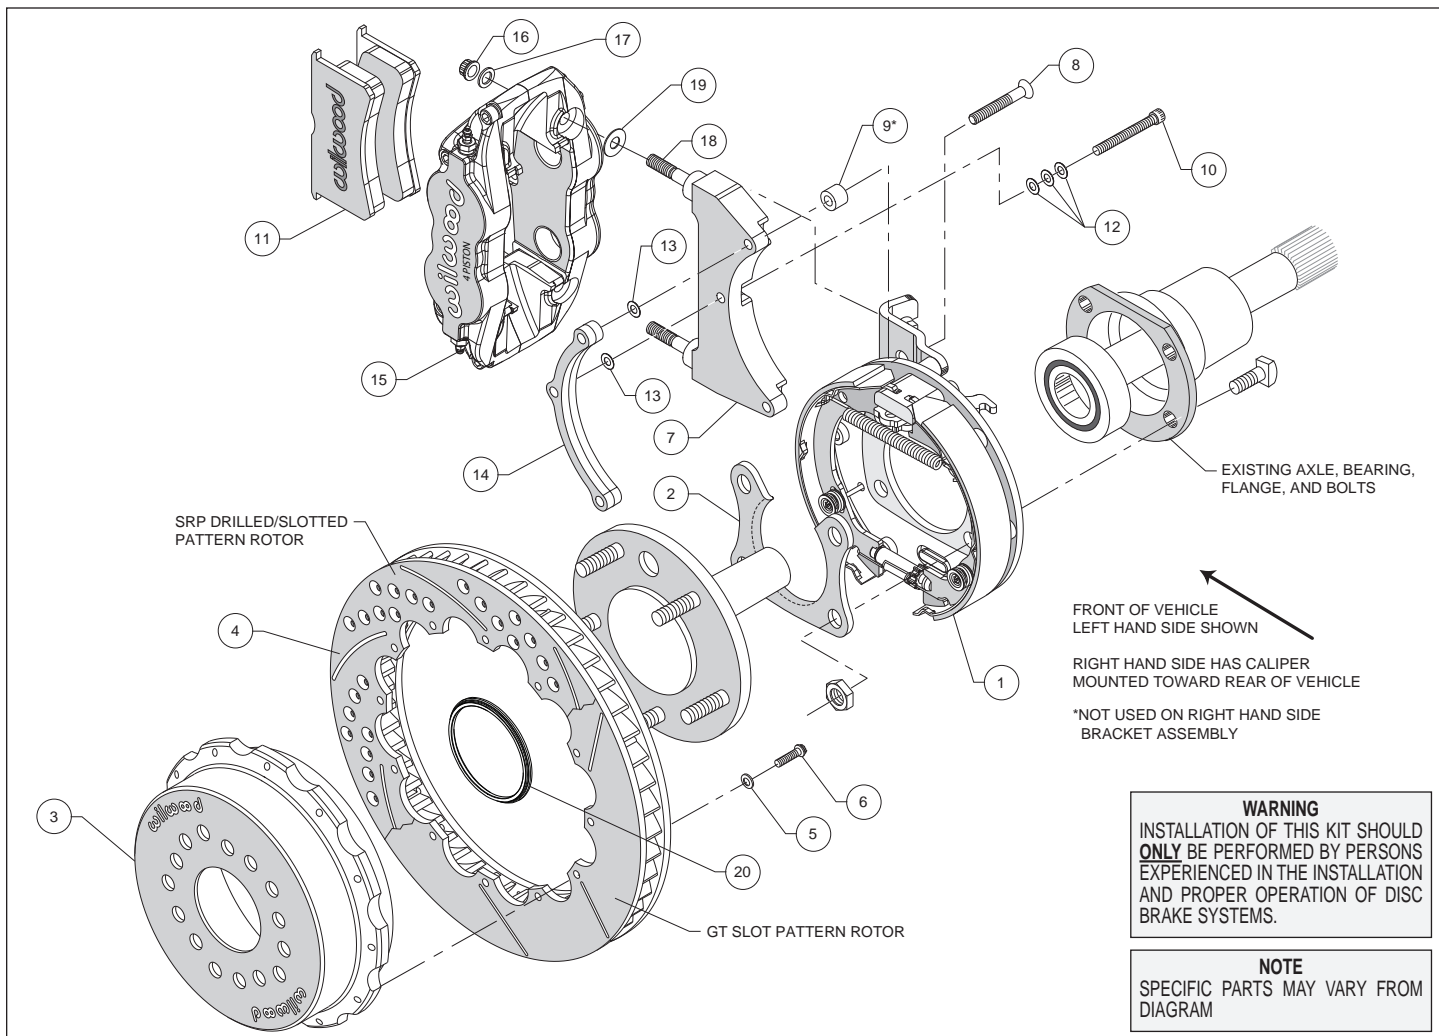
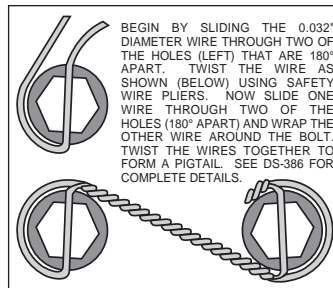

Figure 1. Typical Installation Configuration
Figure 5. Safety Wire Diagram
**Assembly Instructions** (numbers in parenthesis refer to the parts list and Figure 1 on the preceding pages): **CAUTION:** All mounting bolts must fully engage threaded holes.
- Orient the bracket assembly (1), as shown in Figure 1, and Photo 1, and slide it onto the axle. Insert the axle and bracket into the axle housing. Ensure that the bracket assembly backing plate fits flush against the axle housing flange.
- Install the bearing retainer (2) with the opening pointing upward and the lip facing inward (toward the bearing), as shown in Figures 1 and 4, and Photo 2. Secure retainer and bracket assembly to the axle housing flange using the Original Equipment Manufacturer (OEM) bolts and nuts, Figure 1. Apply red *Loctite*® 271 to the OEM bolt threads and torque to OEM specifications.
•**NOTE:** Please reference the caution statement at the beginning of the assembly instructions. The caliper mounting bracket assembly (7) should initially be installed with clean, dry threads on the mounting bolts. **NOTE:** The caliper bracket must tighten squarely against the back side of the bracket kit assembly (1). The ends of the bolts should not exceed inside face of insert. Later, after the caliper alignment has been checked, the mount bolts will be secured using red *Loctite*® 271.
**Left Hand Side** - Orient the left hand bracket (7) and 3-hole spacer (14) as shown in Figure 1 and Photo 3, and install using bolts (10) and three washers (12) in the middle and lower hole locations, Figure 1. Use bolt (8) in the upper hole with spacer (9) placed between the bracket (7) and the cable stop bracket, Photo 3. Initially place one .015" shim washer (13) on each of the three bolts between the bracket and 3-hole spacer, Figure 1. Temporarily tighten the mounting bolts.
**Right Hand Side** - Orient the right hand bracket (7) and 3-hole spacer (14) as shown in Photo 4, and install using bolts (10) and three washers (12) in each hole location. Initially place one .015" shim washer (13) on each bolt between the bracket and 3-hole spacer. Temporarily tighten the mounting bolts.
•Orient the rotor (4) and the hat (3) as shown in Figure 1 and Photo 5. Attach rotor to hat using bolts (6) and washers (5). Using an alternating sequence, apply red *Loctite*® 271 to the threads, and torque to 155 **in-lbs**. For an added measure of security, the bolts may be safety wired using standard 0.032 inch diameter stainless steel safety wire as shown in Figure 5. Please refer to Wilwood's data sheet DS-386 (available at [www.wilwood.com/Pdf/DataSheets/ds386.pdf](http://www.wilwood.com/Pdf/DataSheets/ds386.pdf)) for complete safety wire installation instructions.
•Slide the rotor registration adapter (20) onto the axle register on the axle flange with the smaller O.D. facing toward the rotor/hat (3/4), Photo 6. Align the correct hole pattern in the hat with the stud pattern on the axle flange and slide into place, Figure 1 and Photo 7. **NOTE:** The rotor/hat must fit flush against the axle flange or excessive rotor run out may result. Install three lug nuts (finger tight) to keep the rotor/hat assembly in place while continuing with the installation. **NOTE:** Some OEM and after market axles come with stud sizes larger than 0.50" diameter. Verify stud size and have a qualified machine shop drill the bolt circle of the hat/rotor to the correct stud size, if necessary.
•Lubricate the caliper mounting studs (18) with lightweight oil. Initially place one .035" thick shim (19) on each stud as shown in Figure 1 and Photo 8. Mount the caliper (15) onto the bracket (7) using lock nuts (16) and washers (17), Figure 1. Temporarily tighten the lock nuts and view the rotor through the top opening of the caliper. The rotor should be centered in the caliper, Photo 9. If not, adjust by adding or subtracting shims (13) between the bracket (7) and the 3-hole spacer (14). Always use the same amount of shims on each of the three mounting bolts. Once the